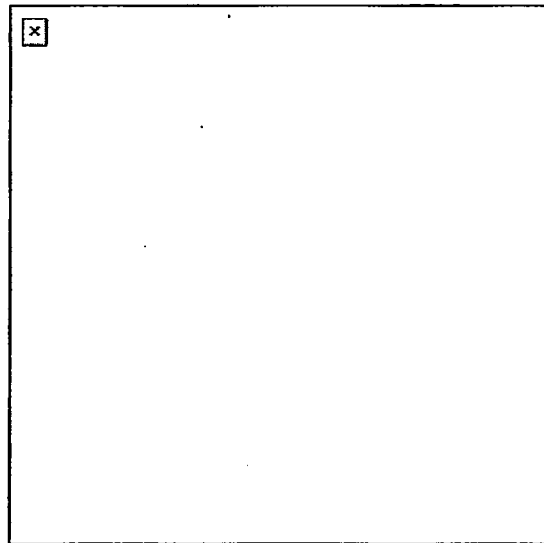

Figure 191-381-1253-2
- 3. Unload a 12-gauge shotgun (Figure 191-381-1253-2).